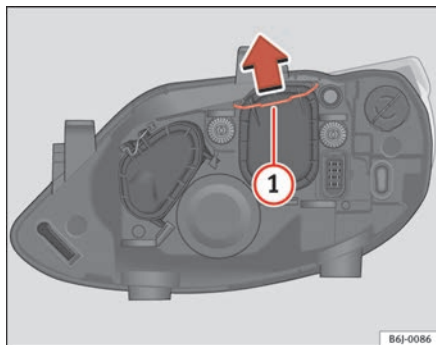

Fig. 135 Dipped head-lights
- Remove the loop ⇒ fig. 135 ① in the direction of the arrow and remove the cover.